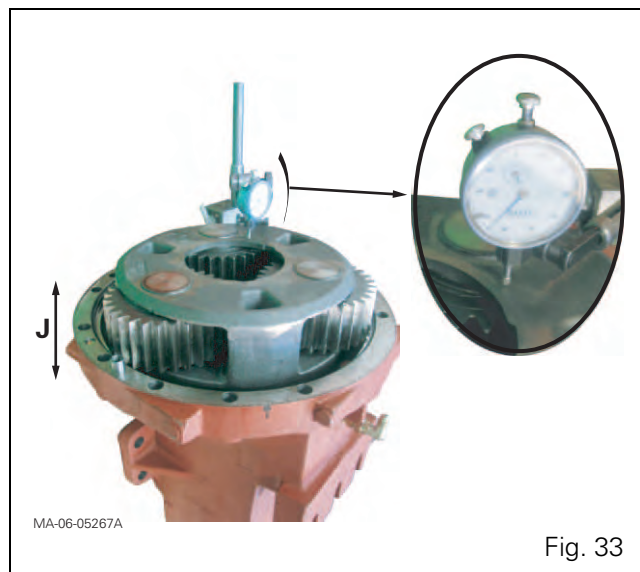

Fig. 33
99. Fit a dial gauge on the trumpet housing with its feeler pin positioned near the centre of the planet carrier (Fig. 31 to Fig. 33). Set the dial gauge needle to zero.
100. Using suitable levers, move the planet carrier vertically (Fig. 33). Measure clearance J indicated on the dial gauge.